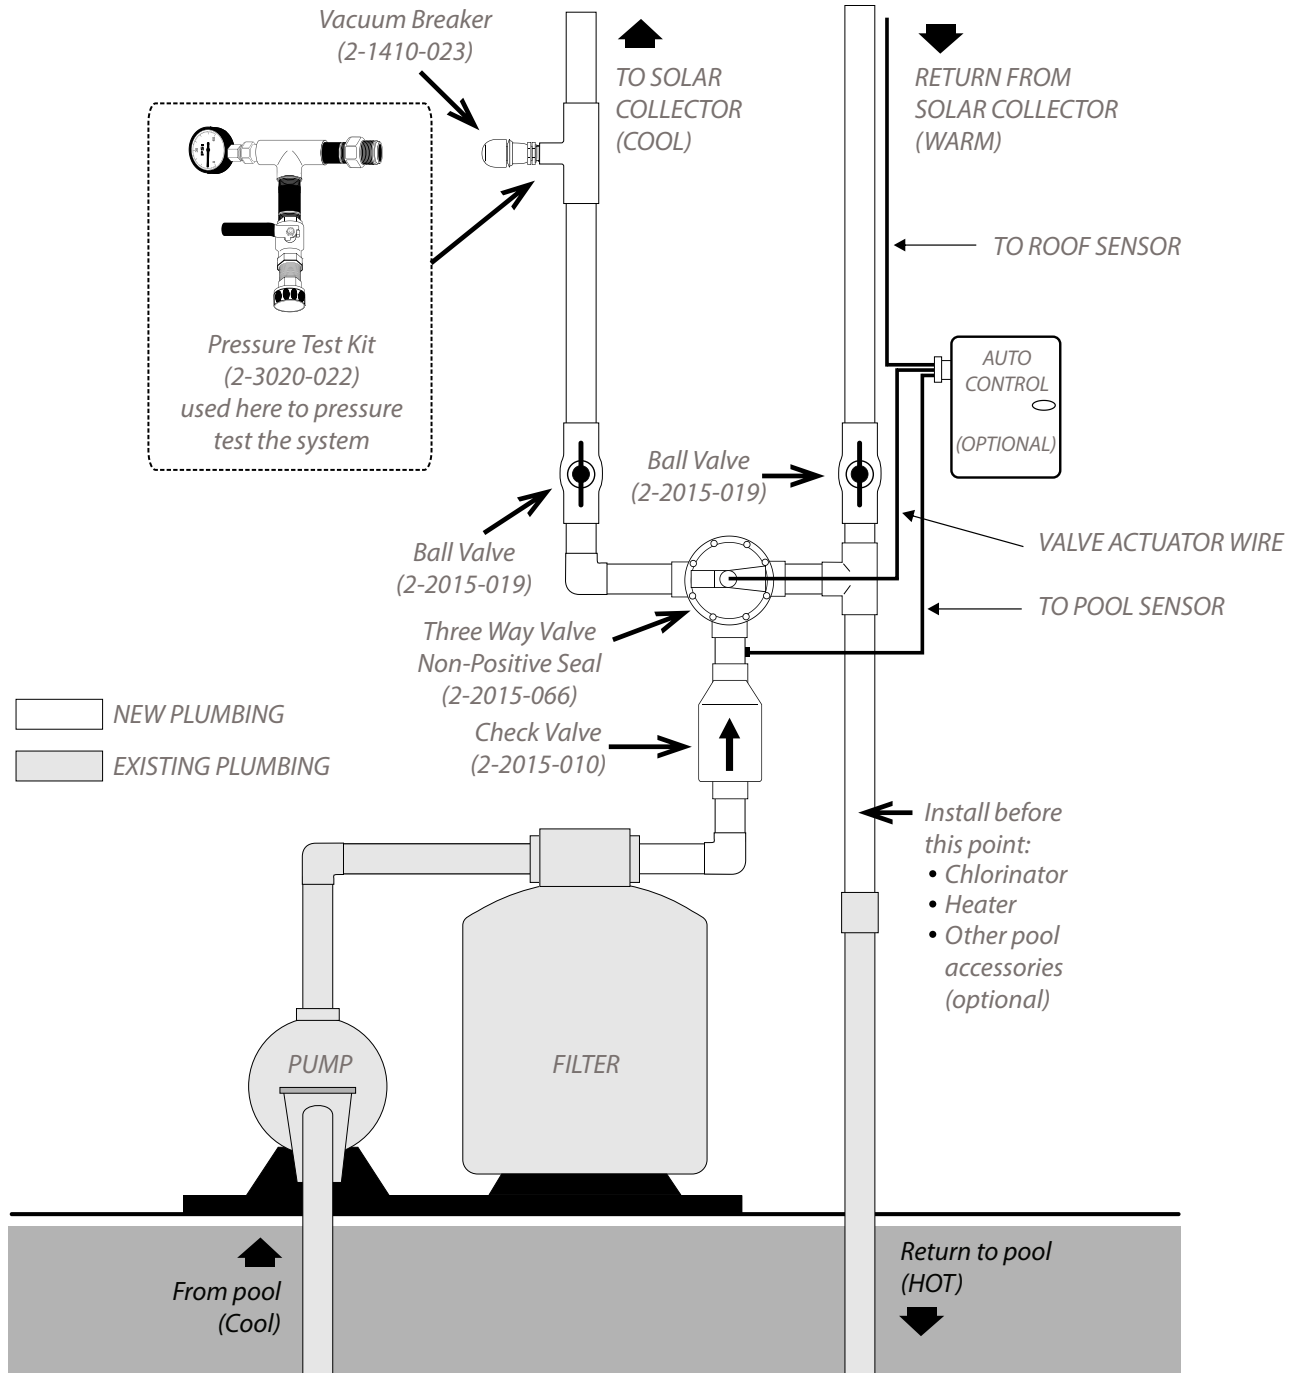

Fig. 13.1
2. Determine where the feed and return pipe will go over the edge of the roof. If possible, this should be perpendicular to the exact points where they will fasten into the existing system or into pipes coming from another location (see Fig. 13.1, page. 22).
Fig. 13.1 on page 22 shows how a typical Heliocol solar pool heating system is plumbed into existing pool plumbing. This drawing may not be just like every system you encounter; the feed and return plumbing on a solar system may be reversed, or it may be a different type of filter, or it may have additional equipment such as a chlorinator, pool cleaner, gas heater, etc. It may also have a long run of plumbing from the pool equipment to the solar collectors.
Whether the system is like this or not, Fig. 13.1 will help you understand the flow of water from the pool, through the pump, filter, solar system, and back to the pool. Study the diagram and become familiar with the valves needed to connect the solar collectors to existing plumbing.
1. Study the plumbing after the filter and decide where you are going to install the check valve and the PVC tee fitting (see Fig. 13.1). If you have auxiliary equipment, you may need to re-plumb a portion of your existing plumbing so this equipment is located after the solar system as indicated in Fig. 13.1.
2. Cut the pipe after the filter where you have decided to locate the check valve and where your solar return pipe will attach to your existing pool return line. If your pool plumbing is 1-½", and you are running 2" plumbing to your solar system, you should be using 2" valves and piping for all of your new plumbing. Therefore you will need (2) 2"x1-½" reducer bushings to adapt your new 2" fittings to the existing 1-½" pipe.
6. Install the (2-1410-023) vacuum breaker about 4' up the feed line and above the top of the filter using a PVC tee and reducer bushing. Face the tee to the outside as shown in Fig. 13.1. Wrap the threads of the vacuum breaker with Teflon tape and screw it into the ¾" threaded reducer bushing.